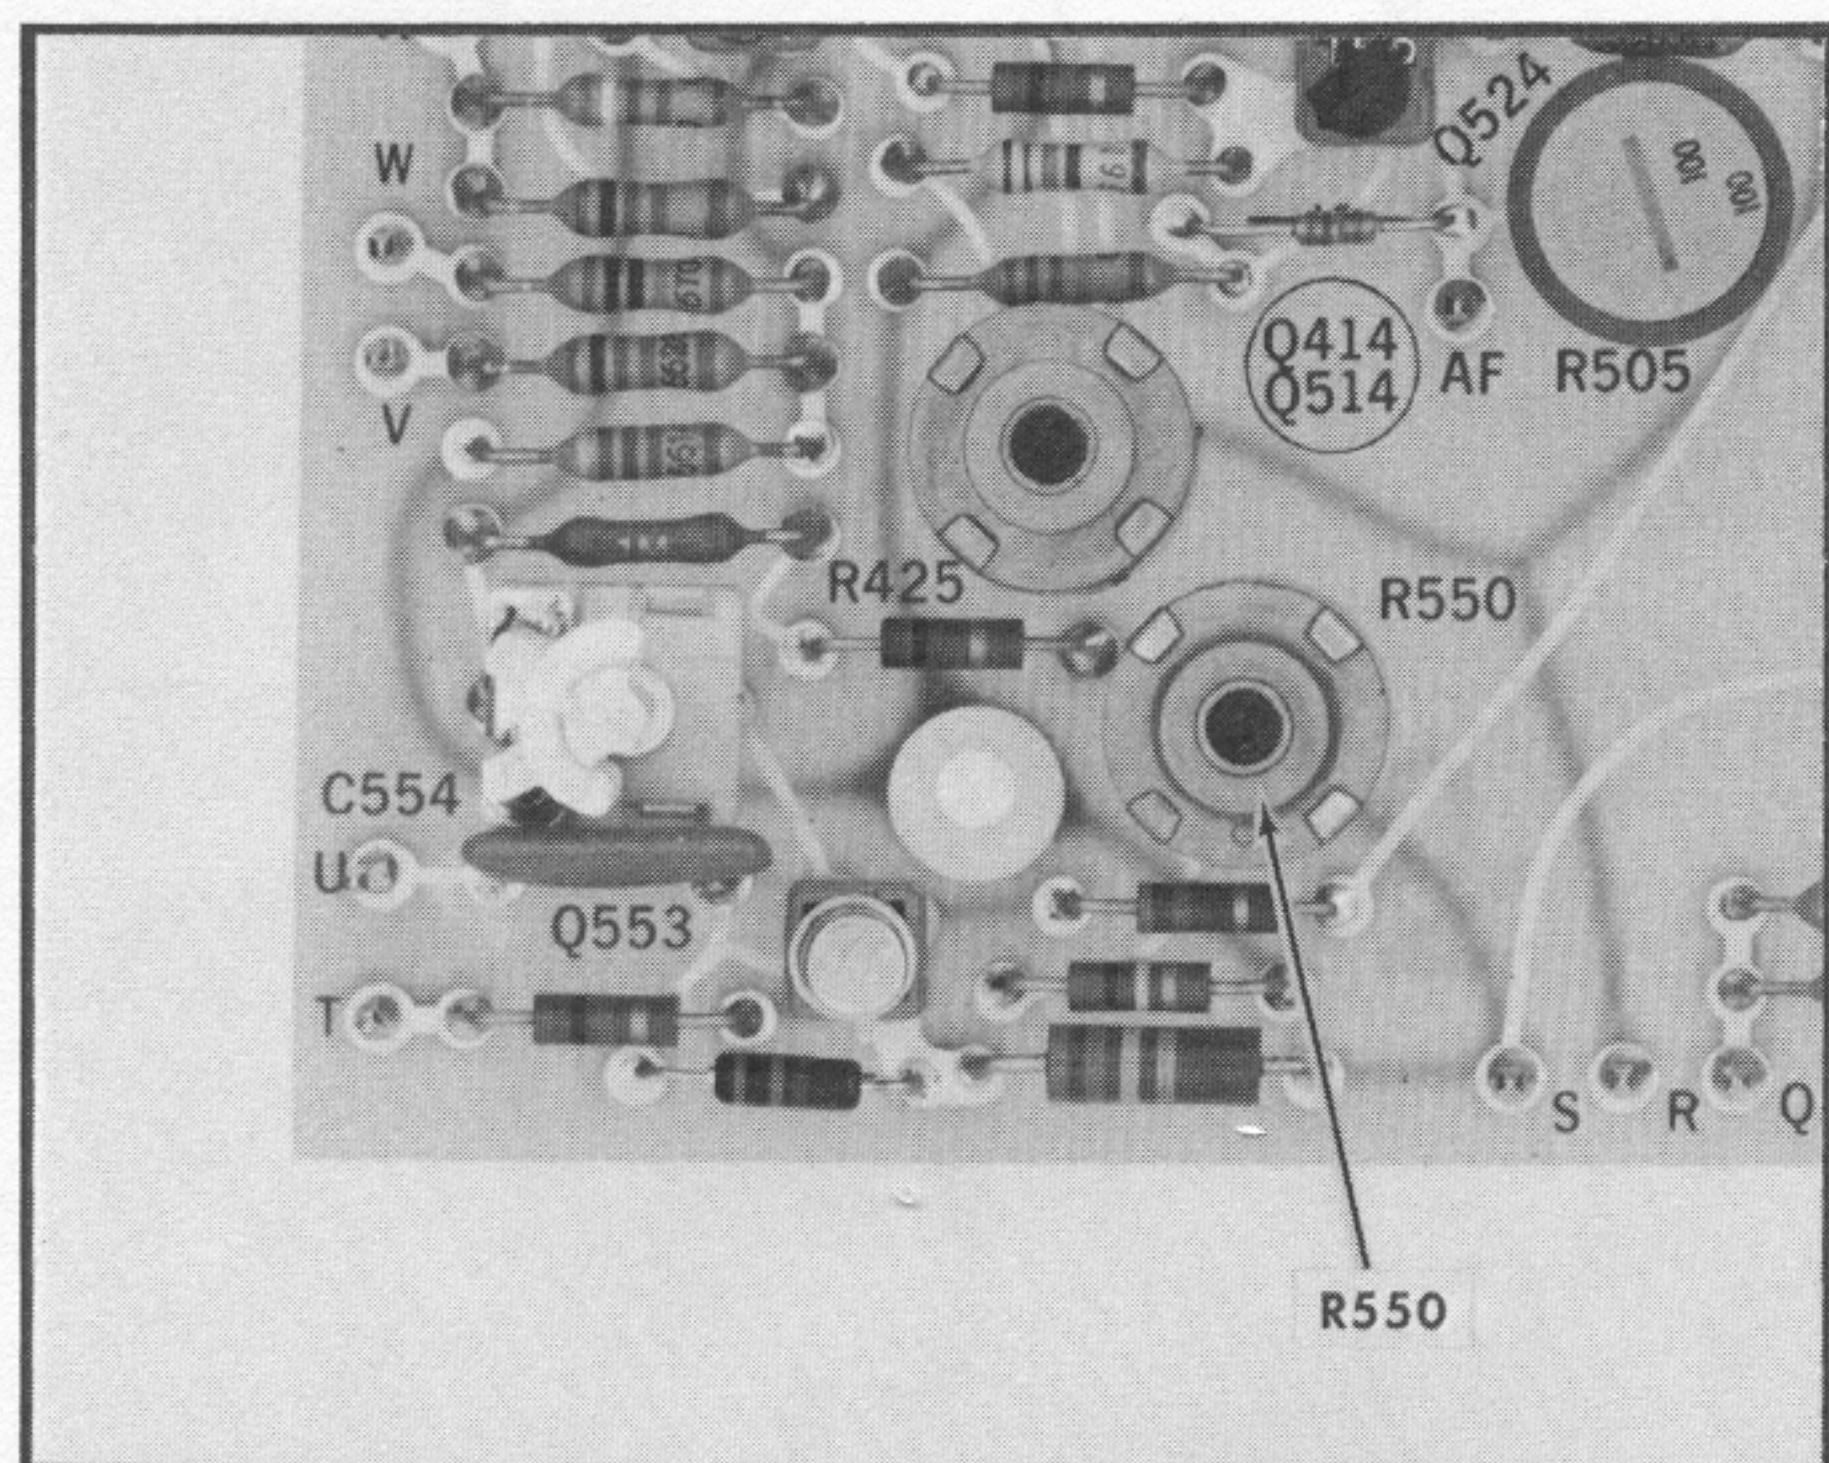

Fig. 2-3. Location of SIGNAL OUTPUT DC Level adjustment.
- d. With the left side panel of the oscilloscope removed, adjust for zero volts with the Sig Out DC Level adjustment, R550, (see Fig. 2-3).